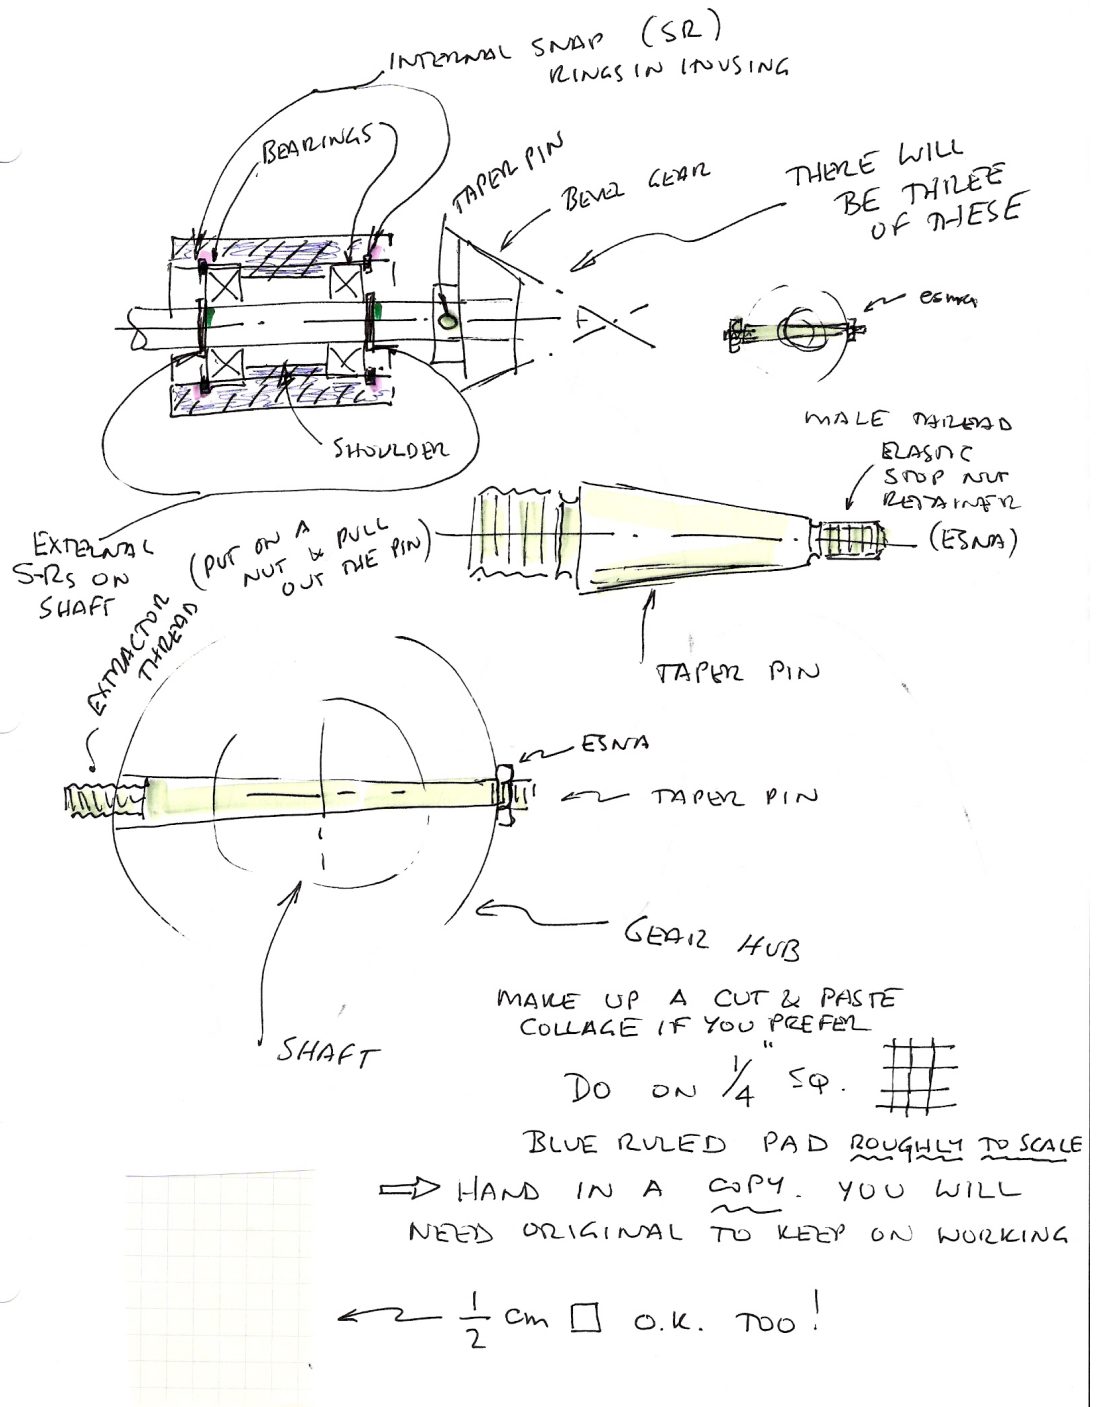

Figure 1: Freehand Planning Your Design Sketch
- On 06-03-20 please submit, in the slot-box-on-the-wall outside ENGMD 457, *copies* of a set of freehand sketches worked up to help you plan your “design sketch”, the *next* “deliverable”. Examine Fig. 1. This is my rough sketch of the features you must select, plan and sketch. There is quit a lot on this ugly scrap of paper. Study it carefully. You may prefer to do this planning stage using 3D-CAD software (ProE or SolidWorks). I have no objections. Nevertheless I want to see, early on, that you have grasped the essentials of the project. A cardinal rule in the design office is to always keep you original documents. After all you are working on them constantly. Until the final submission, I only want to see evidence that you are progressing smoothly so as to avert serious misunderstanding that leads to disaster in the end. You may use solid modelling links like on my bevel gear catalogue pages (.dxf, .dwg) or those you may find as part of you solid modelling software.